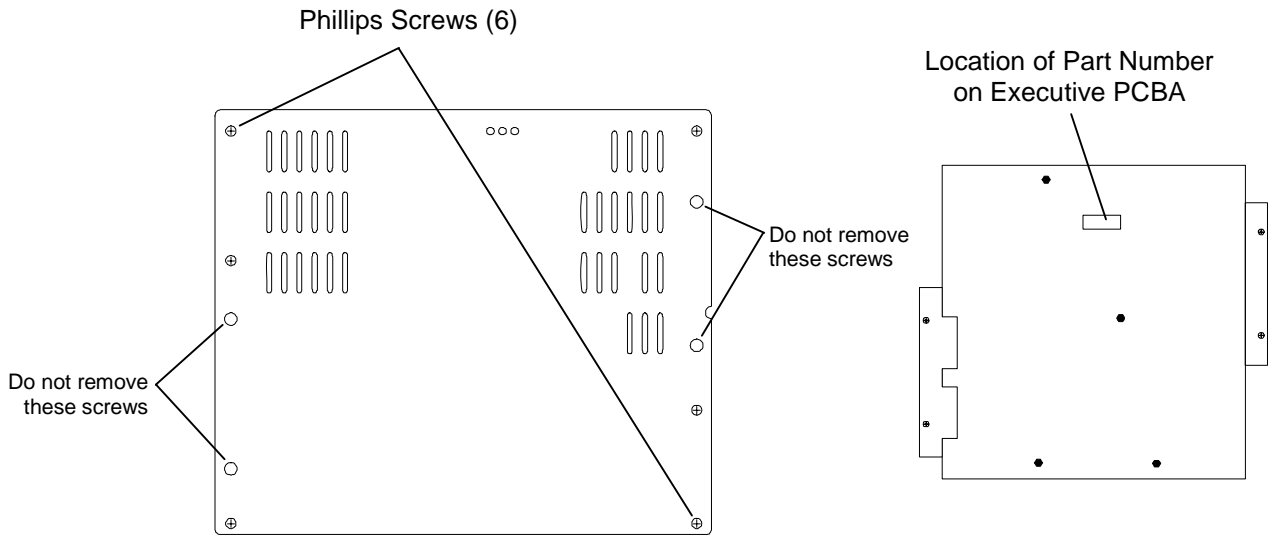

Figure 8-1 Rear Service Panel and PCBA Part Number Location
3. Remove the six Phillips screws securing the service panel on the rear of the library – refer to Figure 8-1 below. Care must be taken to not remove the four screws securing the heatsink panels.